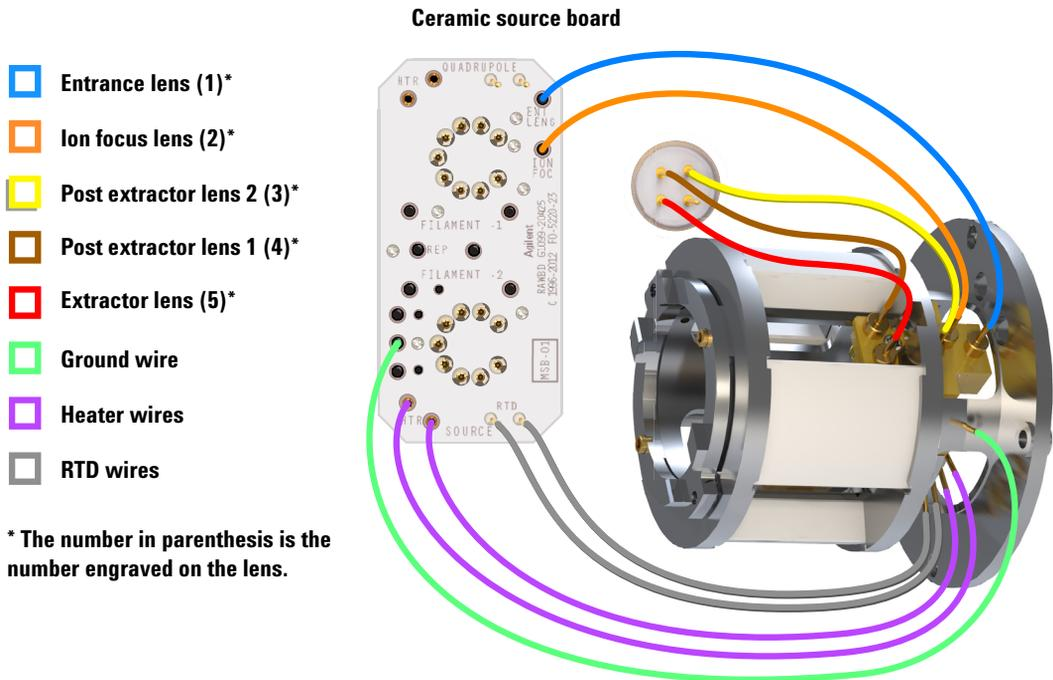

Figure 65 Wiring between the ceramic source board and the EI HES radiator
- 1 Use tweezers or needle nose pliers to connect/disconnect the green ground wire and the 5 lens wires from the radiator. Do not bend the wires any more than necessary. (See Figure 65.)